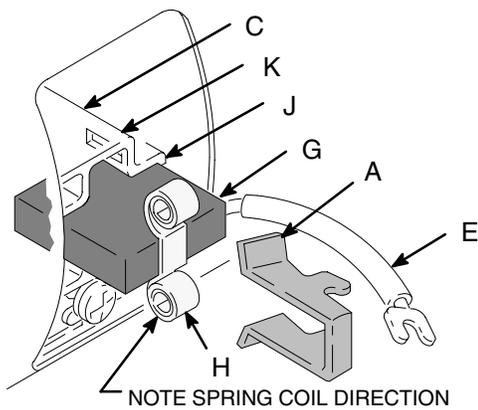

Fig. 4
8. Fig. 4. Install new brush (G) with lead in long slot (J) of brush holder (C).
10. Fig. 4. Place spring (H) on brush (G).
11. Fig. 4. Install spring clip (A). Push down to hook short slots (K) in brush holder (C).